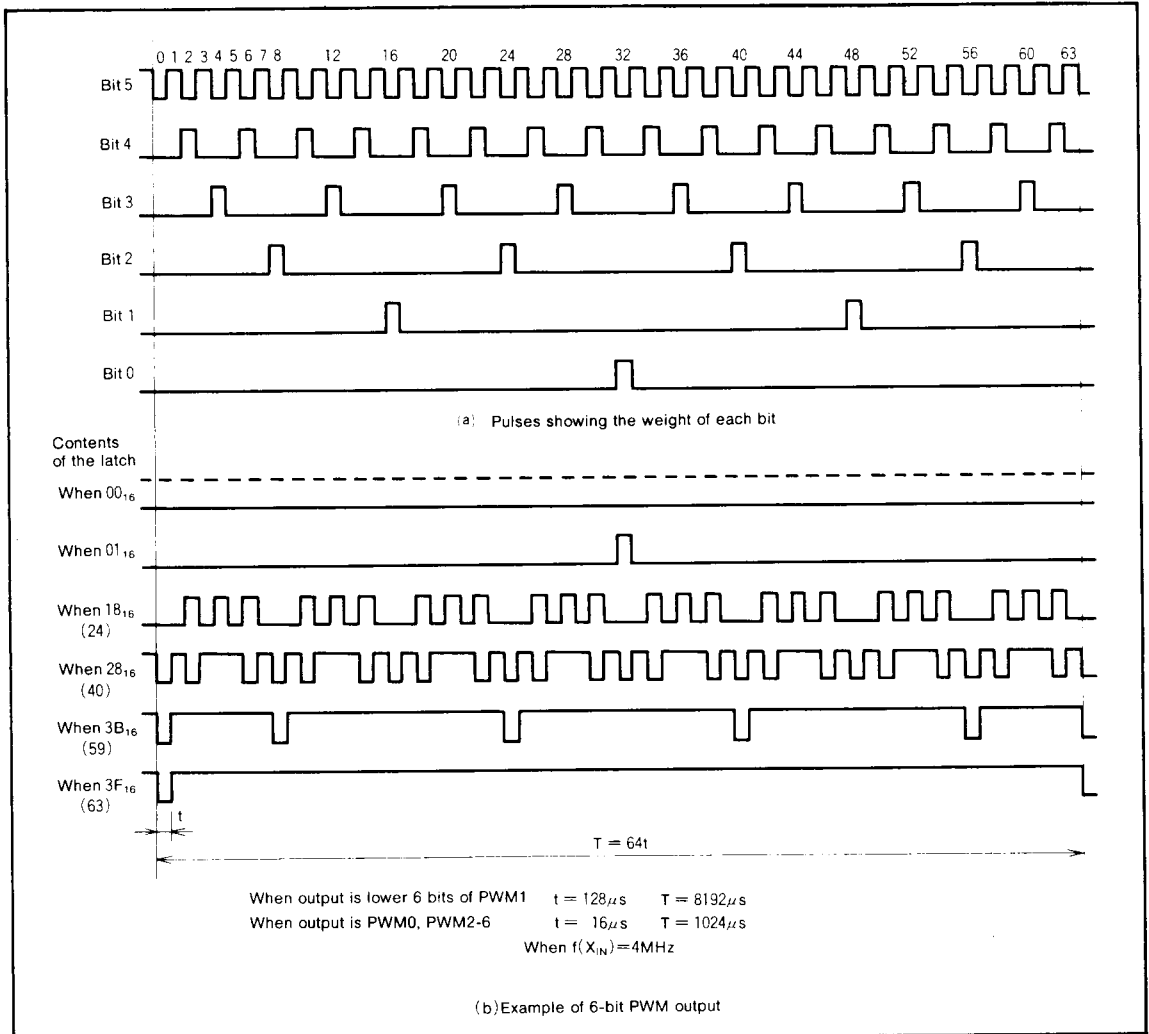

Fig. 14 6-bit PWM timing diagram
(4) Operation of the 6-bit PWMs
The timing diagram of the two 6-bit PWMs (PWM0 and PWM2-6) is shown in Figure 14. One period (T) is composed of 64 ( $2^6$ ) segments.
There are six different pulse types configured from bits 0 to 5 representing the significance of each bit. These are output within one period in the circuit internal section. Refer to Figure 14 (a).
Six different pulses can be output from the PWM. These can be selected by bits 0 through 5. Depending on the content of the 6-bit PWM latch, pulses from 5 to 0 is selected. The PWM output is the difference of the sum of each of these pulses. Several examples are shown in Figure 14 (b). Changes in the contents of the PWM latch allows the selection of 64 lengths of high-level area outputs varying from 0/64 to 63/64. An length of entirely high-level output cannot be output. i.e. 64/64.